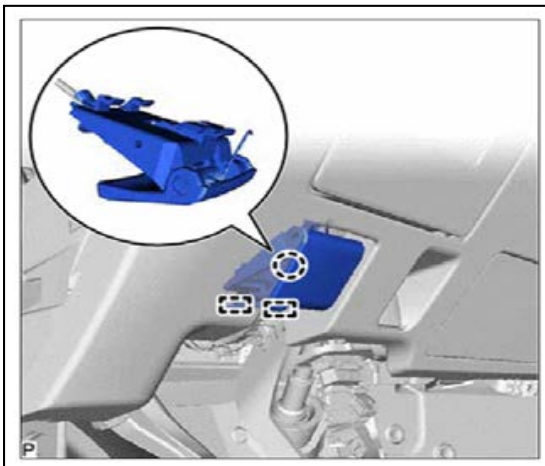

Figure 18
- a. Disengage the claw and 2 guides to disconnect the hood lock control lever sub-assembly. See Figure 18.